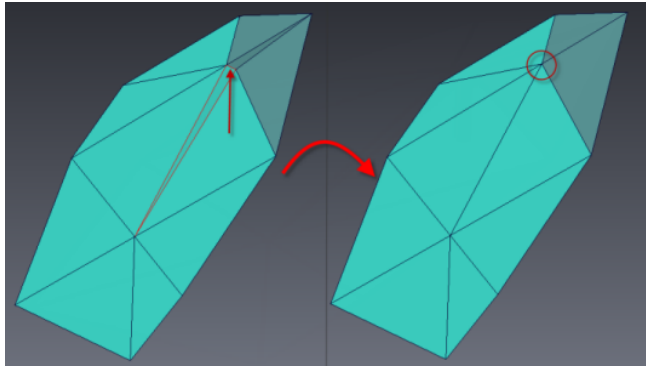

Figure 5.25: Editing a triangle with the *Contract Edges* tool to improve its quality.
- Click on the edge of the triangle you want to remove (see Figure 5.25).